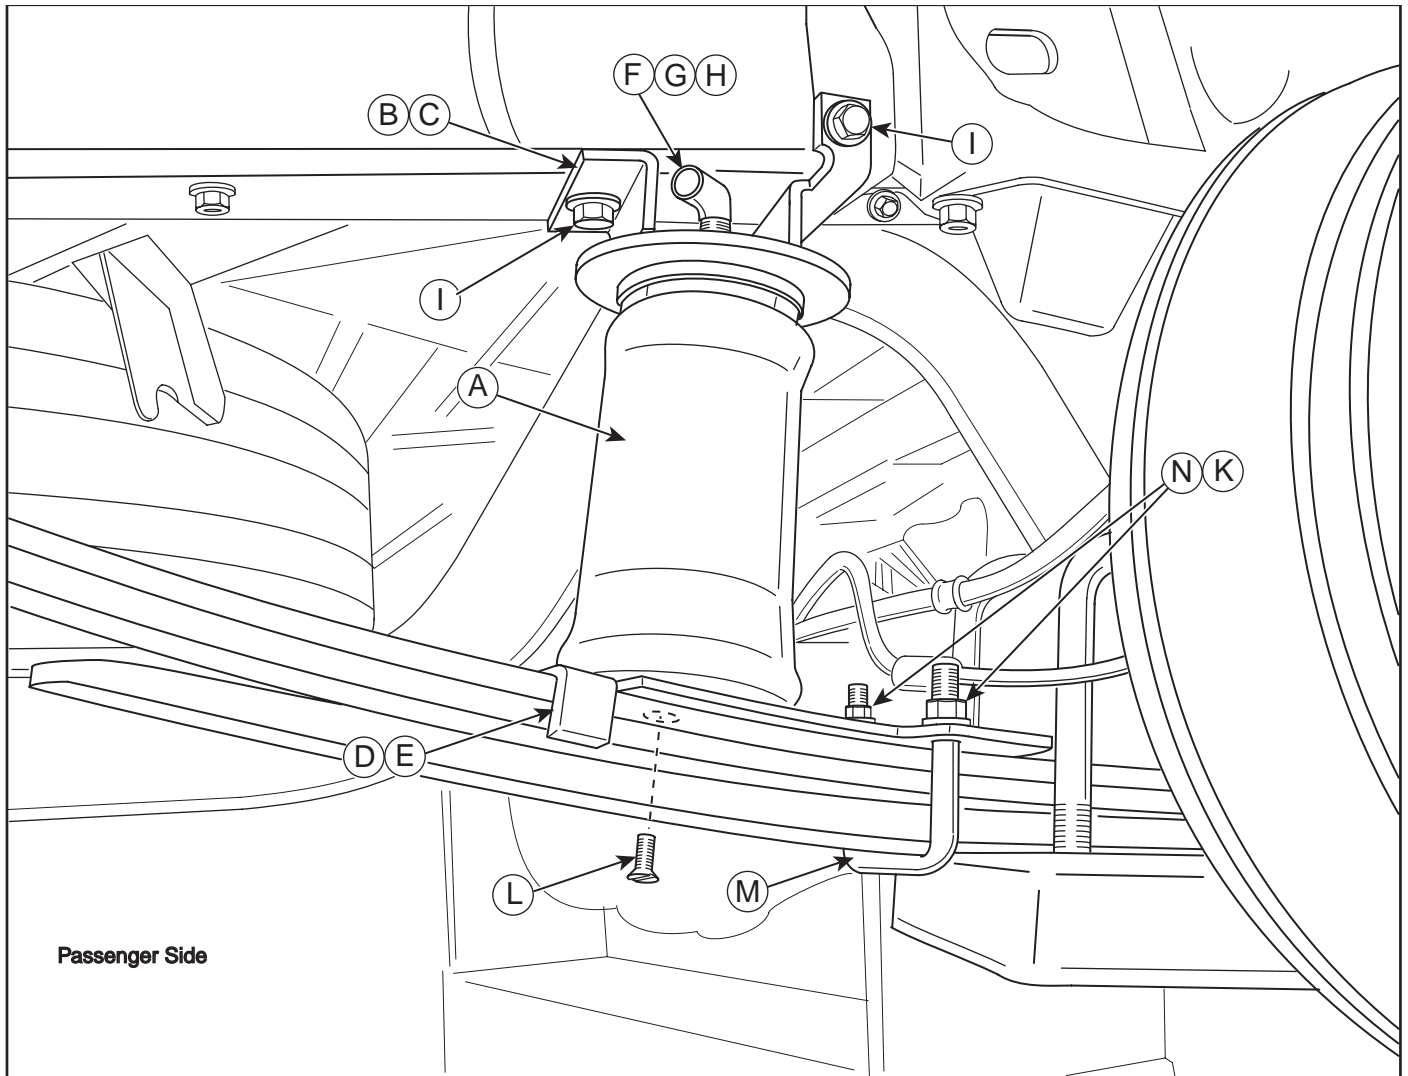

Figure 1
3. Set the brackets on the frame behind the axle as shown (Figure 1 & 2). Clamp the brackets to the frame with vise grips or welding clamps.
5. Attach both brackets to the frame with the supplied (4) four $\frac{3}{8}$ "-16 x 1-1/2" bolts (I), large flat washers (J) and nyloc nuts (K) (Figure 1).
3. Attach the lower brackets to the leaf spring with supplied U-bolts (M), flat washers (N) and nyloc nuts (K) (Figure 1).